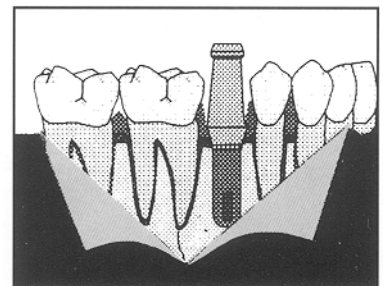

Fig.4
4. After complete healing, the temporary healing abutment is removed and the Natural Abutment with the Impression Screw is placed securely on the implant (Fig. 4). Friction Driver 905002 is the proper driver for this procedure. A confirming x-ray is necessary at this point to determine complete seating of the abutment on the implant. An impression may then be made with the crown and bridge impression material of choice.